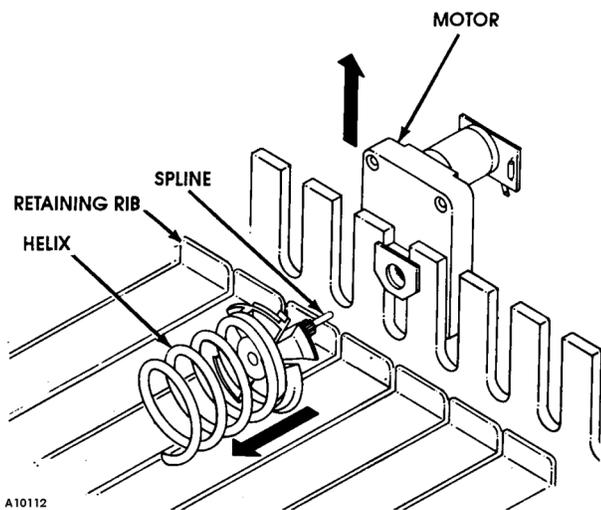

Figure 12
3. Raise the motor slightly and pull forward on the auger until it separates from the motor. See **Figure 12**.